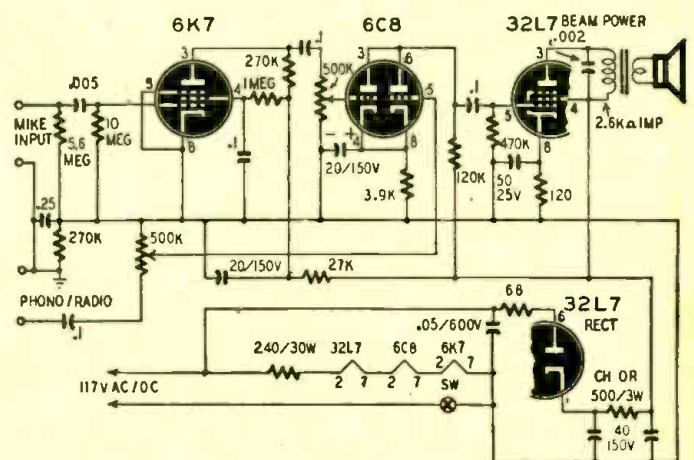

Fig. 3—Schematic of the small three-tube a.c.-d.c. amplifier.
A. This small amplifier (Fig. 3) delivers about 0.8 watt and gives good results when used with an 8- or 10-inch PM speaker. The low-gain channel will work with a radio tuner or a high-output phono pickup. The high-gain channel can be used with most crystal mikes.